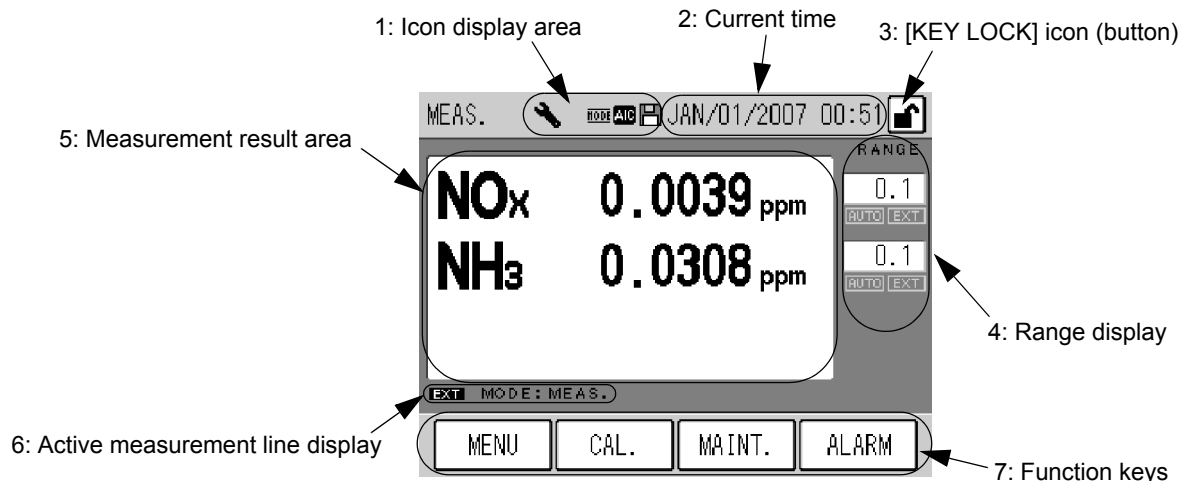

Fig. 5 MEAS. screen
To display the CAL. screen, press the [CAL.] key on the MEAS. screen (Fig. 5 on page 7).
- [CLOSE]: Returns to the MEAS. screen (Fig. 5 on page 7).